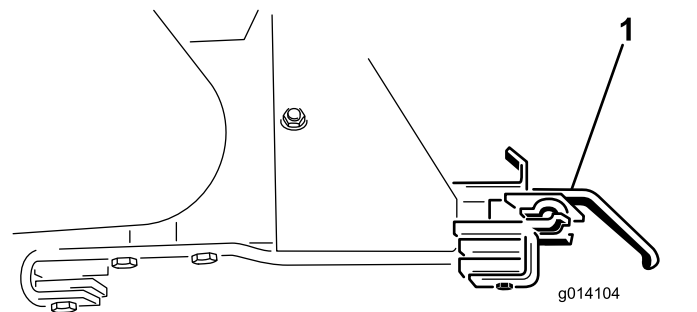

Figure 58
18. Remove the 2 option attachment brackets (Figure 58).